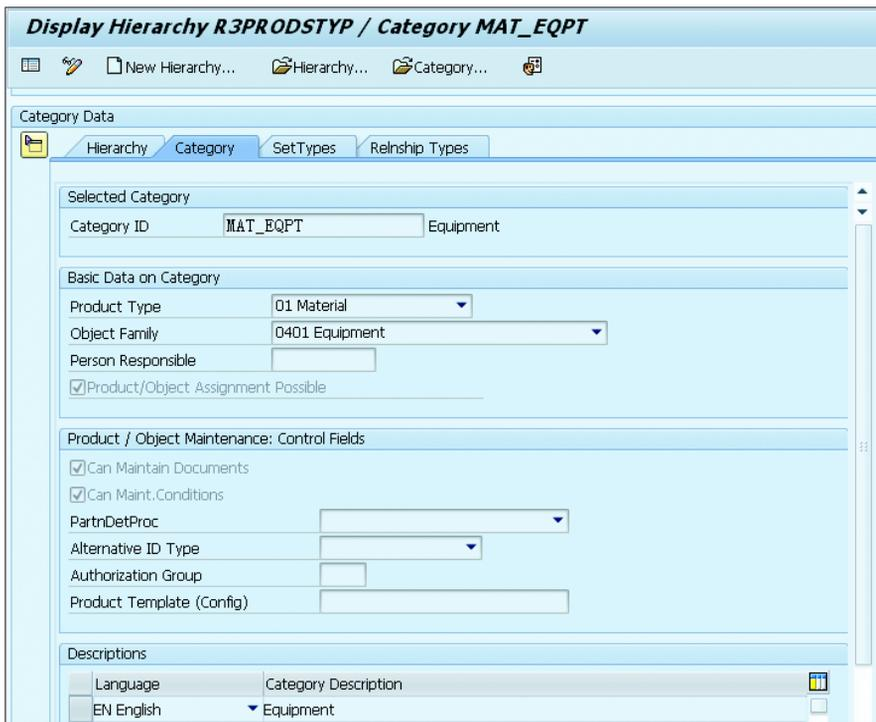

Figure 7.14 Object Family Assignment to the Product Category
- After the CATEGORY is created, assign the OBJECT FAMILY and the set types to the category so that you can create the object with the object category EQUIPMENT (see Figure 7.14).